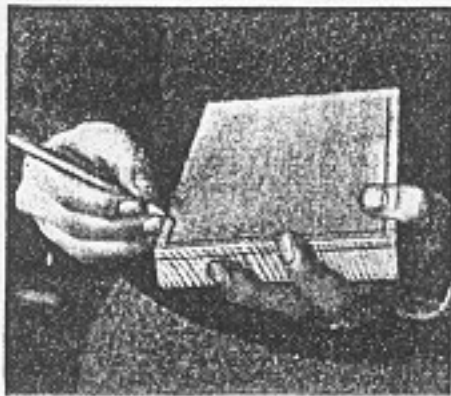

Fig. 46. Gauging with a pencil.
1. The pencil is held between the thumb and the second and third fingers, so that the third finger is held against the wood and acts as the head of a marking gauge. The line may be gauged either away from the worker or toward him (Fig. 46). This method can be used only for distances less than 1 in. and on boards having a smooth edge.